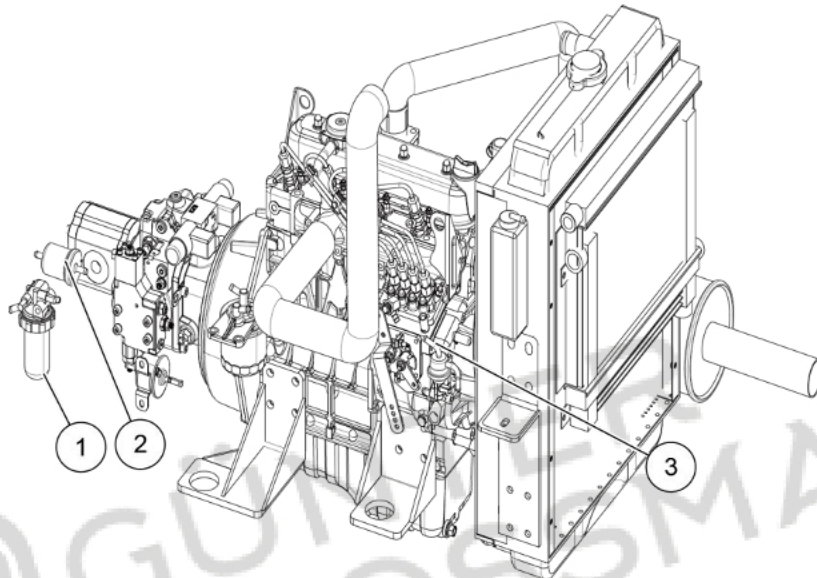

Figure 6-6 Replacing fuel filter
Step 3: Unscrew the primary fuel filter (1) and the secondary fuel filter (2) with a filter wrench, and place a container under the filter to prevent fuel splashing, as shown in Figure 6-6;